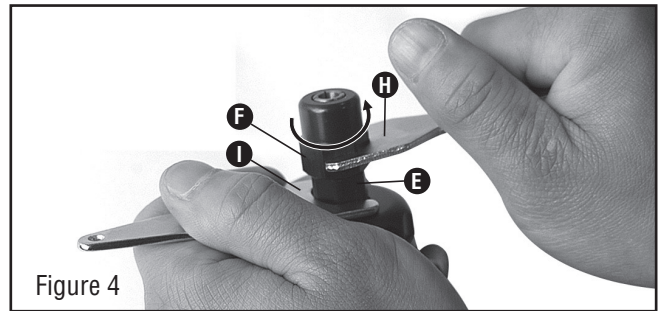

Figure 4
4. Loosen the collet jacket (F) counterclockwise by hand or with the large wrench (H) while holding the small wrench (I) on the flats of the collet holder (E). (See Figure 4)